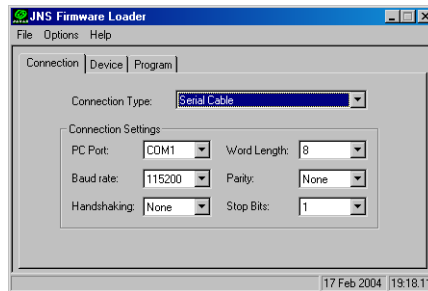

Figure 4-14. Floader Main Screen
4. Activate FLoader (Figure 4-14).